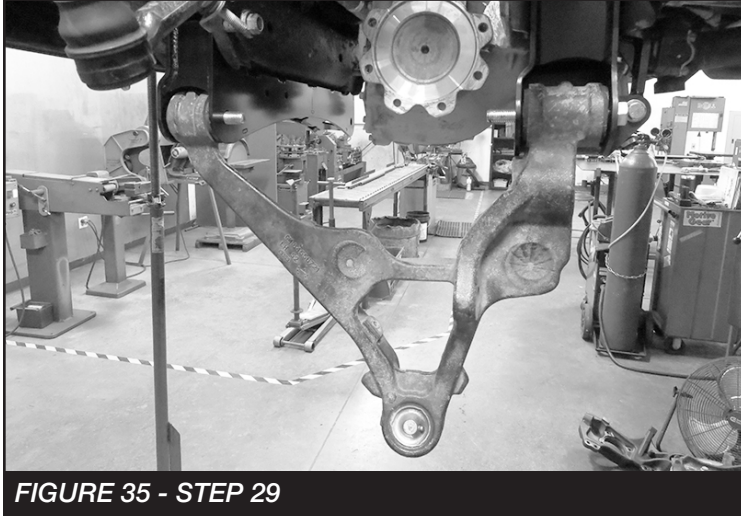

FIGURE 35 - STEP 29
29. Install both lower control arms into the Fabtech crossmember pockets using the supplied M18 X 120mm hardware for the front pivot and M18 X 150mm hardware for the rear pivot. Leave loose. **SEE FIGURE 35**